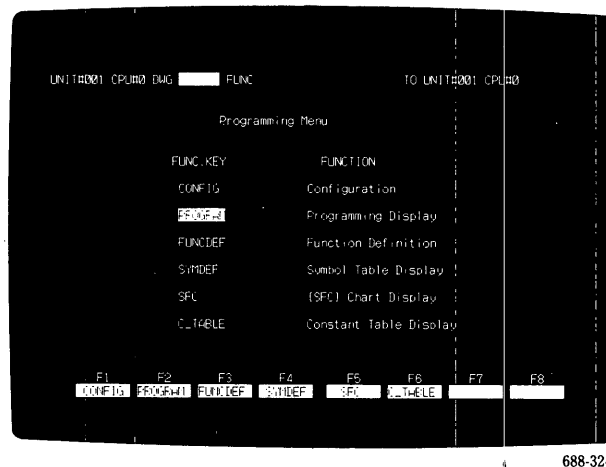
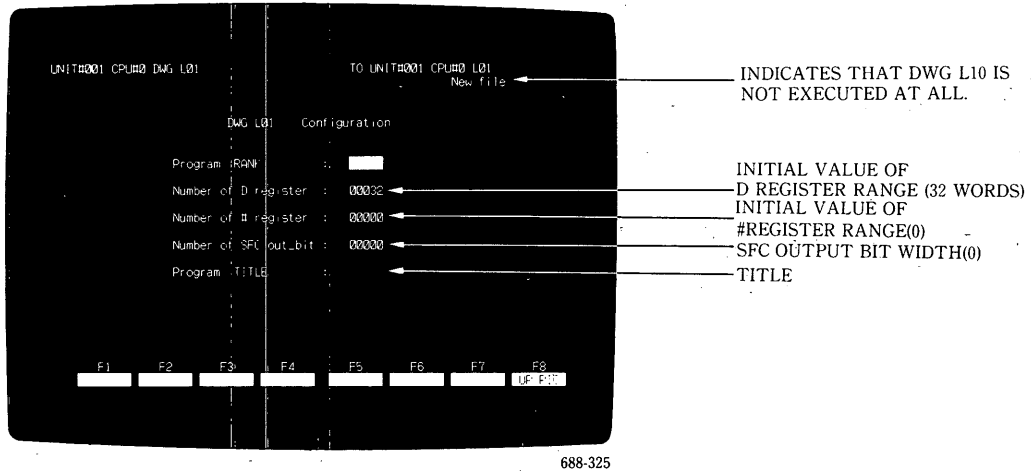

Fig. 5.7 DWG/Function Program Display Selection Screen
Fig. 5.10 Program Configuration Screen
Fig. 5.7 shows the screen after executing the above procedures.
When the DWG/function program display is made, if unit number specification is CPU (1-247) until key entry is accepted after the program display menu screen in Fig. 5.7 is displayed, several seconds may be required in the following cases, since the user function definition data file is read from the CPU of the specified unit number:
The call up screen in Fig. 5.7 is used to select the DWG/function program display and is shifted to a specified DWG/function program display screen with the function keys. Table 5.3 shows the meanings of program displays.
To select the screen to be displayed from the program display selection screen in Fig. 5.7
Using Fig. 5.7 as an example of the screen for calling up the DWG/function program display, an example of keying operations for obtaining the program display in Fig. 5.9 (b) is shown below.
- b. Function key  (PROGRAM) : Fig. 5.7 is displayed.
Select CONFIG from the DWG/function program display call up screen in Fig. 5.7 with **F1** (CONFIG) key or **PGUP** and **PGDN** keys, then enter a DWG number or function name, and the DWG/function program configuration screen in Fig. 5.10 will be displayed.
The following items can be specified on the DWG program configuration screen (see Fig. 5.10):
Function titles can be specified on the function program configuration screen (see Fig. 5.10).
When the program configuration screen is displayed, depress F8 (UP PIC) key to return from the program display (Fig. 5.9) to the program display selection screen (Fig. 5.7).
- b. Function key (PROGRAM) : The DWG/function program selection screen (Fig. 5.7) is displayed.
- f. : The program configuration screen (Fig. 5.10) is displayed.